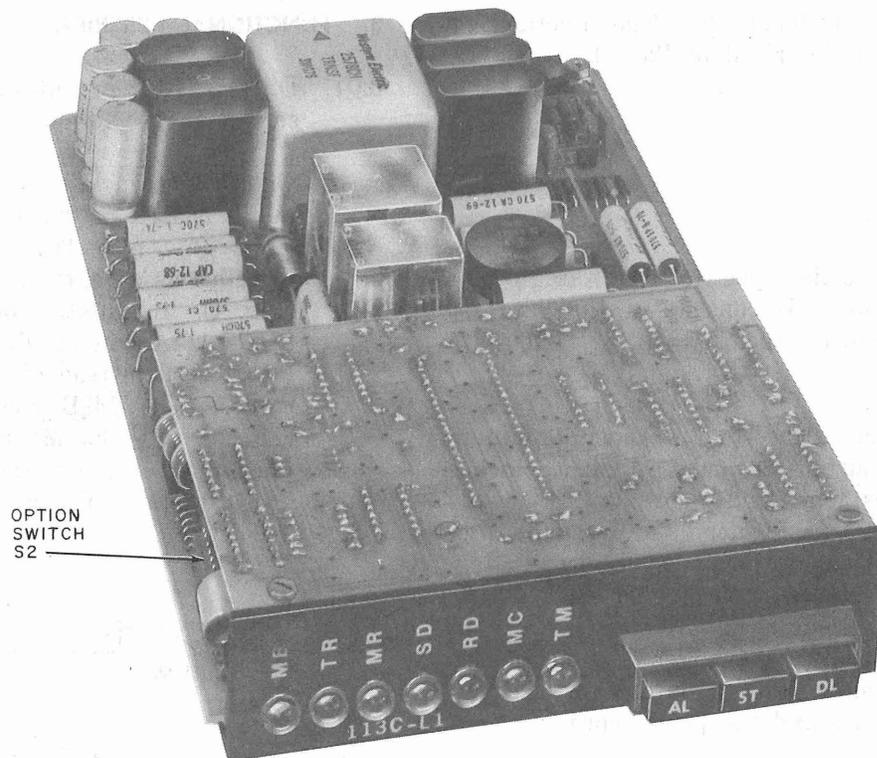

Fig. 2—DS 113C-L1
- **DS 113C-L1:** Printed circuit pack assembly shown in Fig. 2.